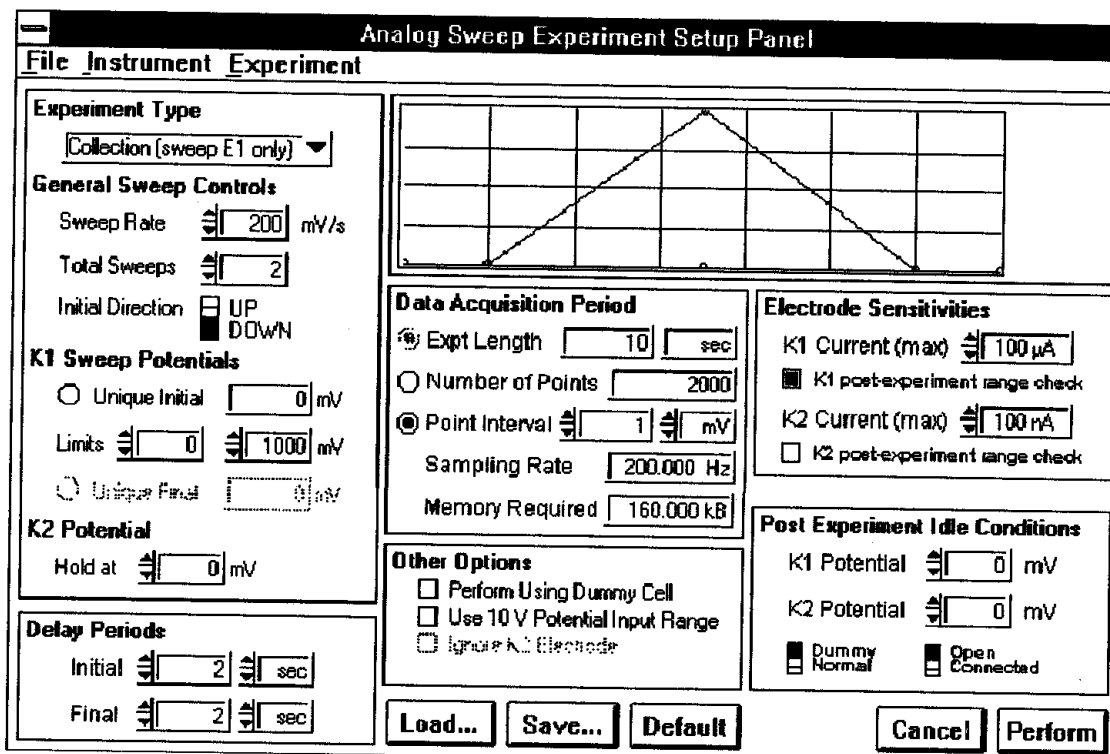

Figure 2: Experimental Setup for APAP Voltammetry
4. Select the **Analog Sweep Voltammetry** option from the **Experiment** menu and adjust the experiment settings so that they match Figure 2. (One exception to the parameters in this figure is the scan rate. The scan rate should either be set to 40 or 250 mV/sec as discussed above.)